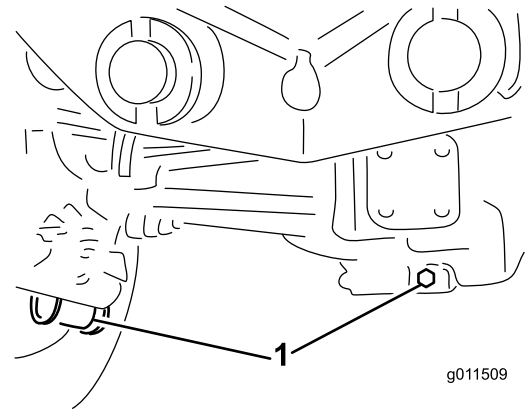

Figure 65
- 2. Clean the area around the 3 drain plugs; 1 on each end and 1 in the center (Figure 65).